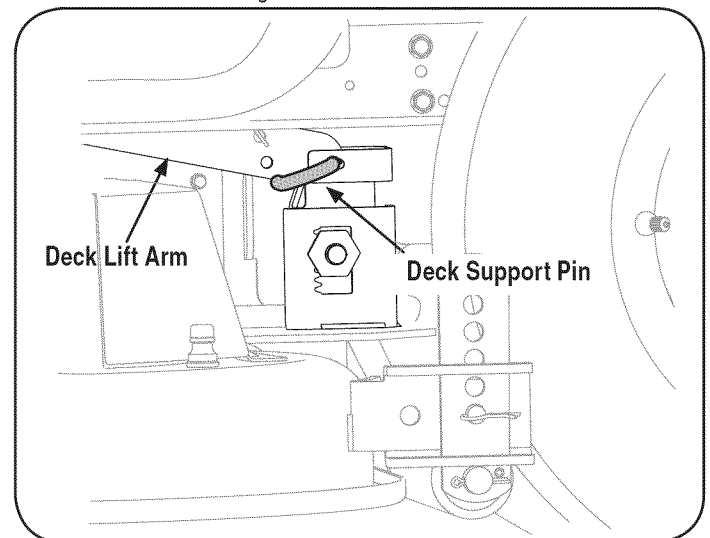

Figure 12
6. Pull the deck support pin outward to release the deck from the deck lift arm. See Figure 12.